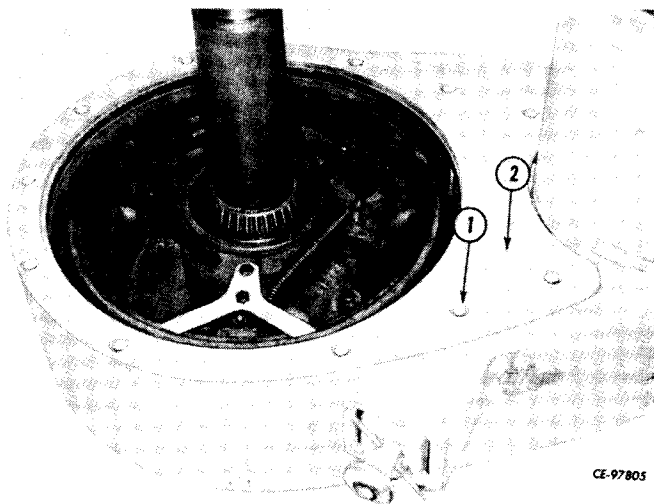

Figure 14-18
Remove cover cap screws (1, Fig. 14-18) and brake cover (2) from winch housing.
Position brake cover (2, Fig. 14-18). Install and tighten cap screws (1) to recommended torque. Refer to "SPECIAL TORQUES."